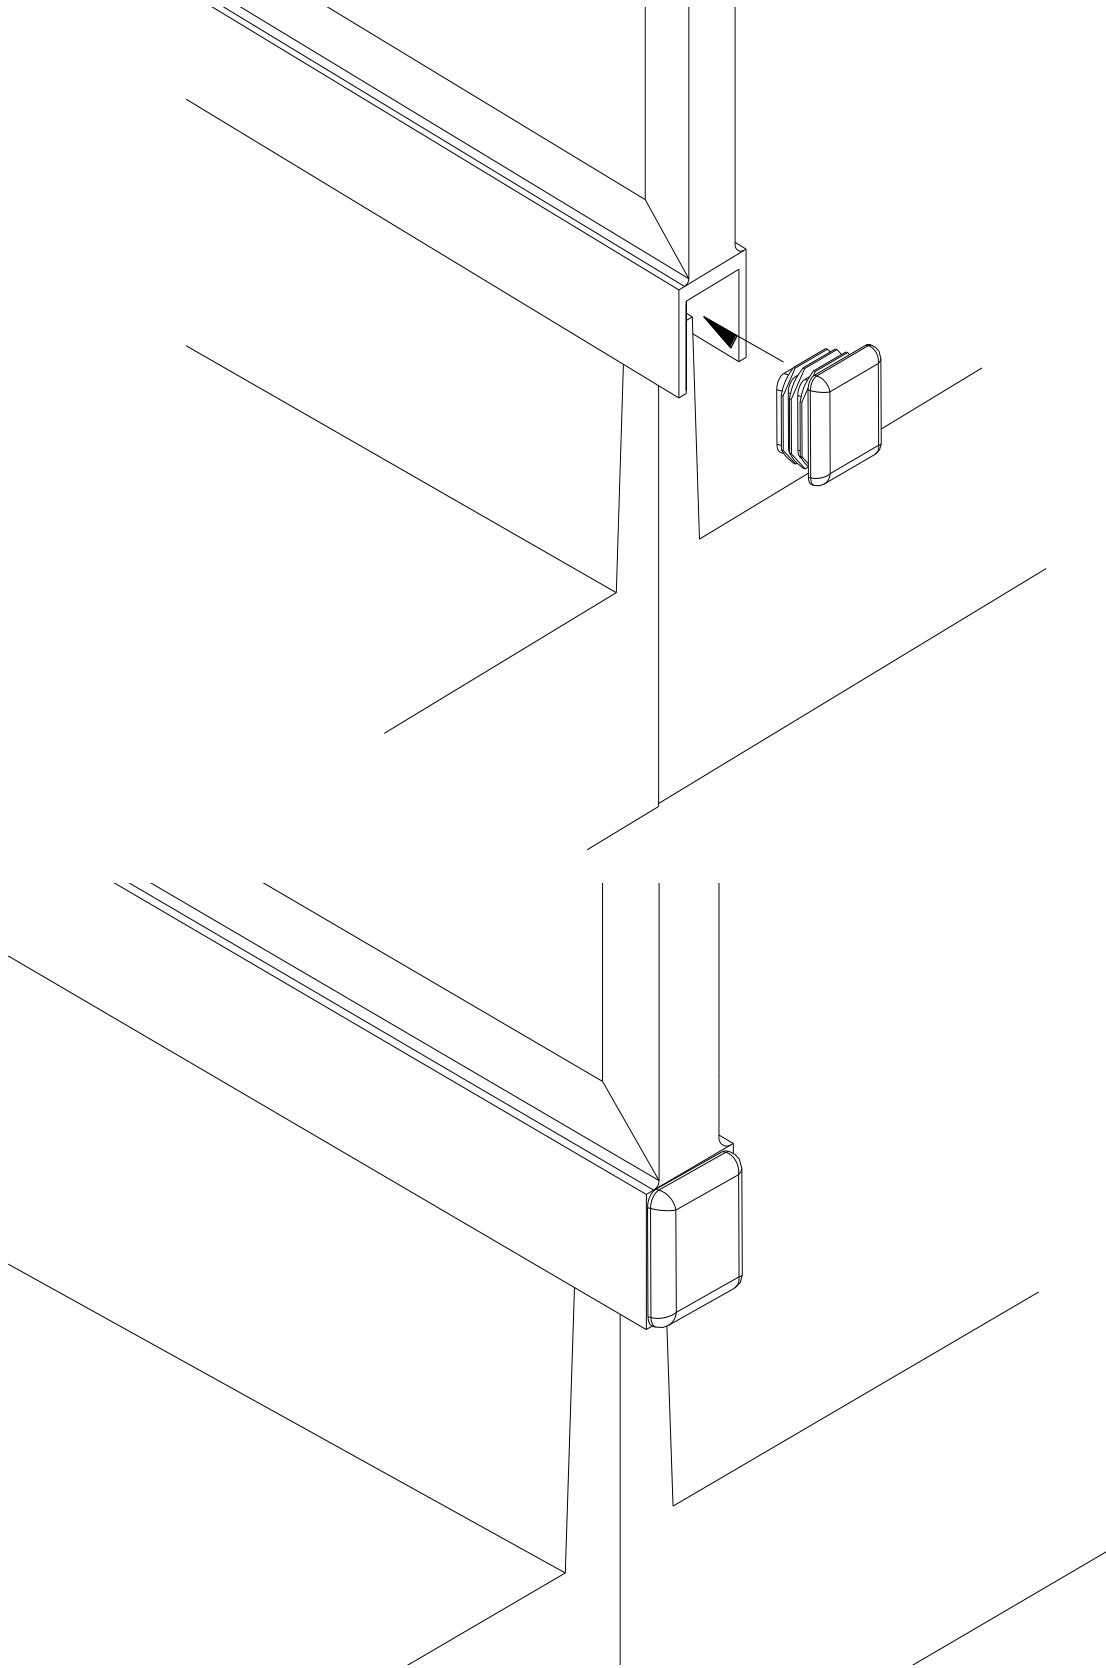

Figure 9
6. **NOTE:** if your system has chain link gates this step is not required. Insert plastic plugs as shown at the bottom front corner of each division panel. See Figure 9.